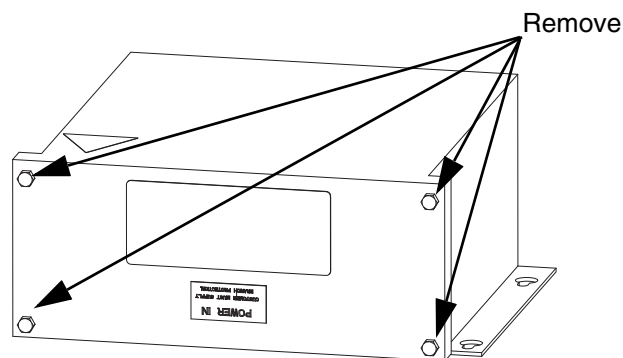

FIG. 8: Standalone Transformer
- Remove the four screws on the transformer as shown in **Figure 8** and remove the front cover.